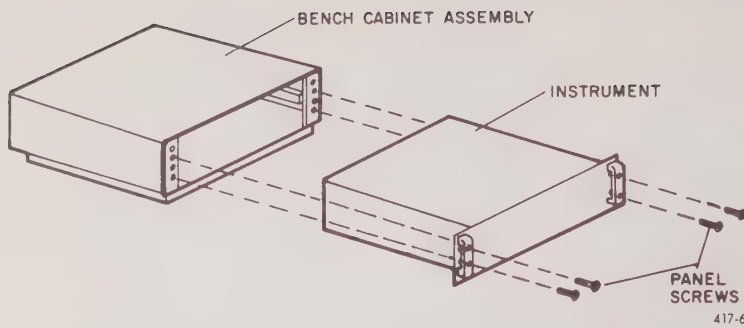

Figure 2-3.
a. Remove the four screws (P/N 7270-6310, No. 10-32, 9/16 in. with nylon washer) from the front panel (Figure 2-3).